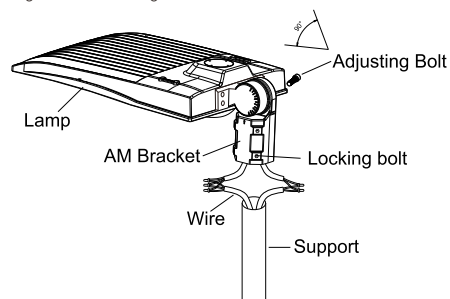

Figure 1
Step 1:Loosen the four bolts on AM bracket, connect the wires correctly, and pull the wires into the poles.(Figure 1)
Notice: Adjustable angle is 0-90°(Figure 1)